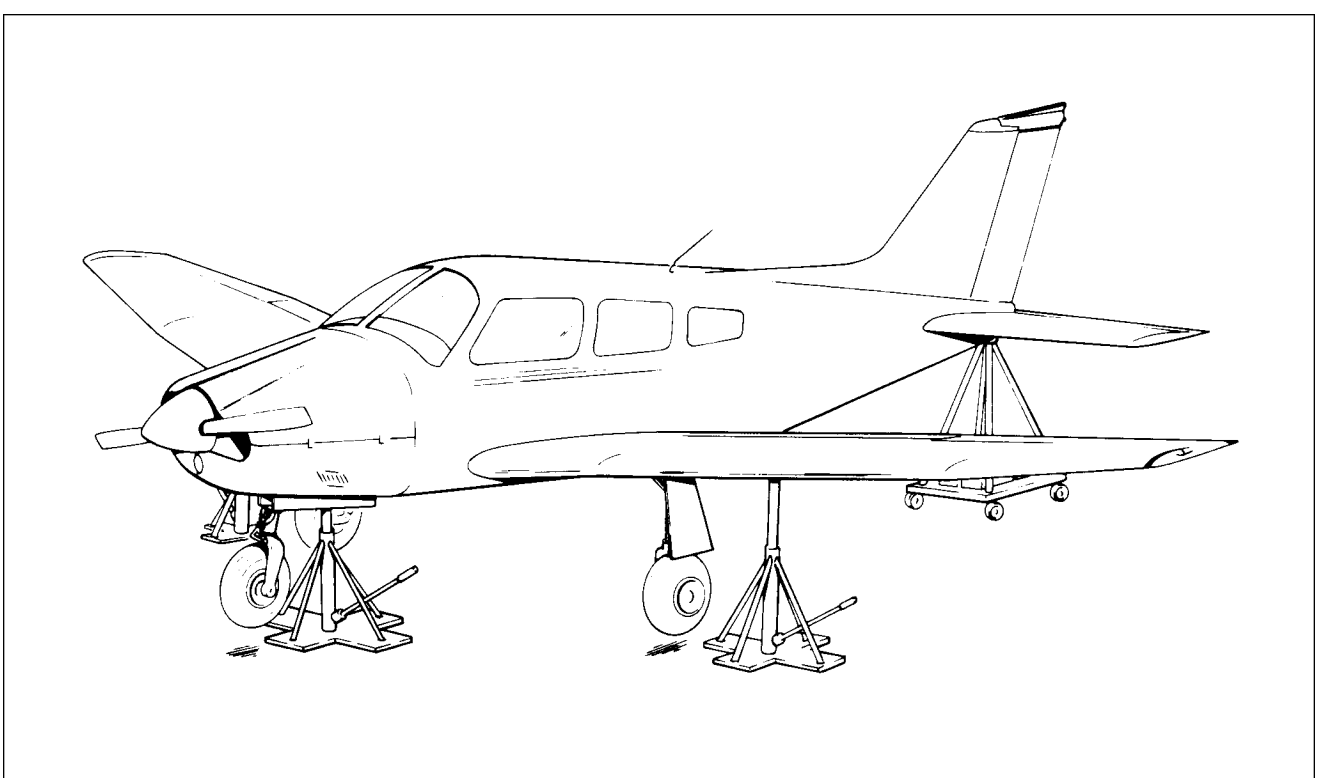

Figure 2-6. Jacking Arrangement
- a. Place jacks under jack pads on the front wing spar. (Refer to Figure 2-6.)